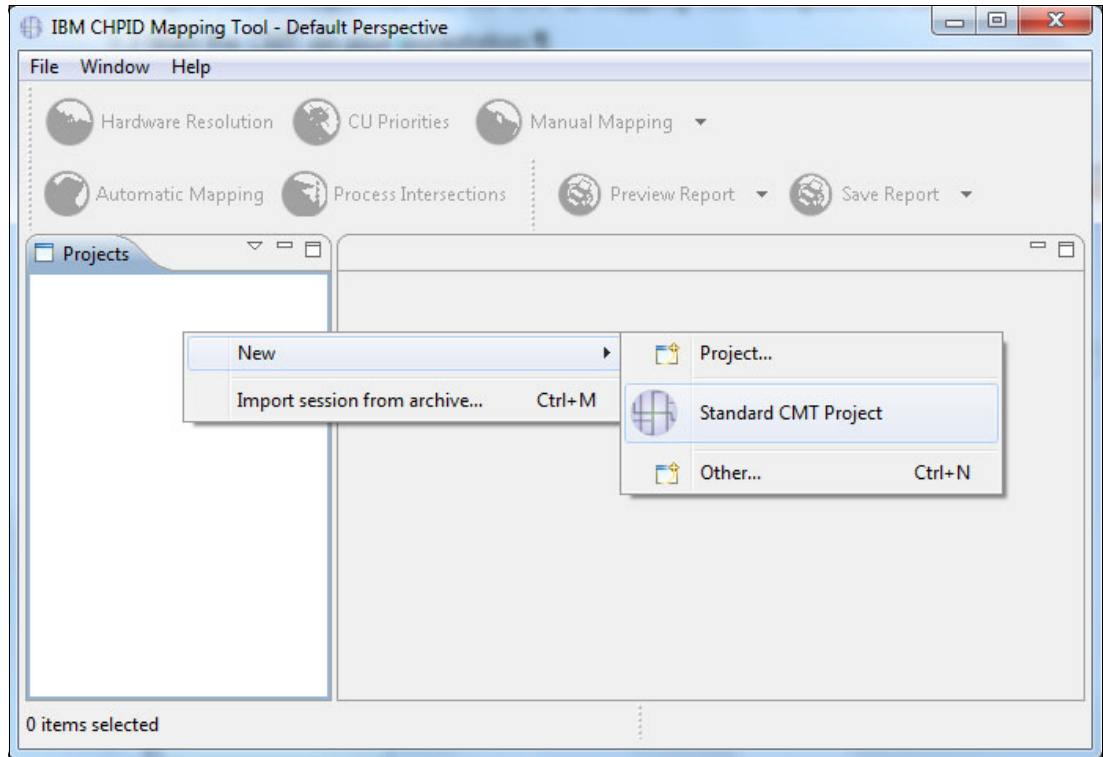

Figure 7-15 CMT - Creating a new CHPID Mapping Tool Project
2. Right-click the Projects pane and select **New** → **Standard CMT Project** (Figure 7-15).